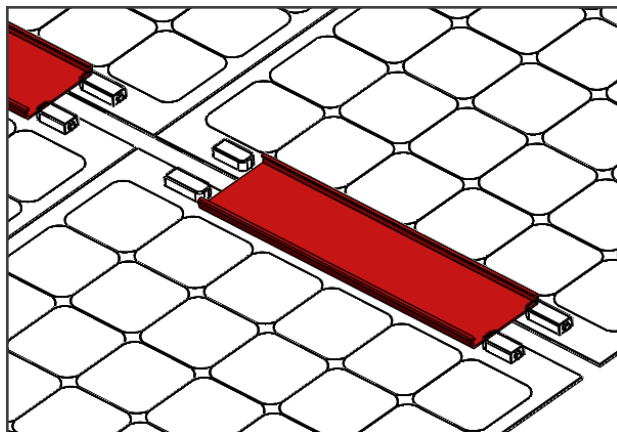

Figure 2 - Install wire trays between junction boxes.
There are four components to the raceway, the: (1) bottom tray, (2) top cover, (3) coupler, and (4) end cap. The tray is designed to fit between the j-boxes of the module as shown in Figure 2.